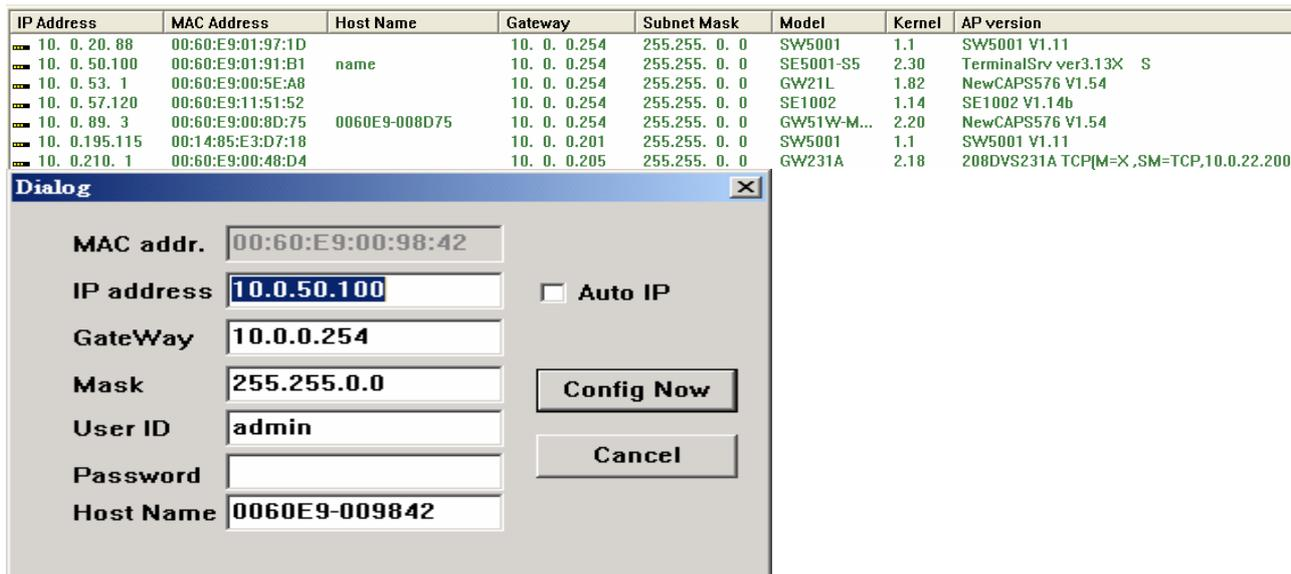

Figure C2. Configuration dialog box
- 2 Select the device to be configured from **IP Address**. Click on the “**Config**” button, a configuration dialog box will pop up as shown in Figure C2: